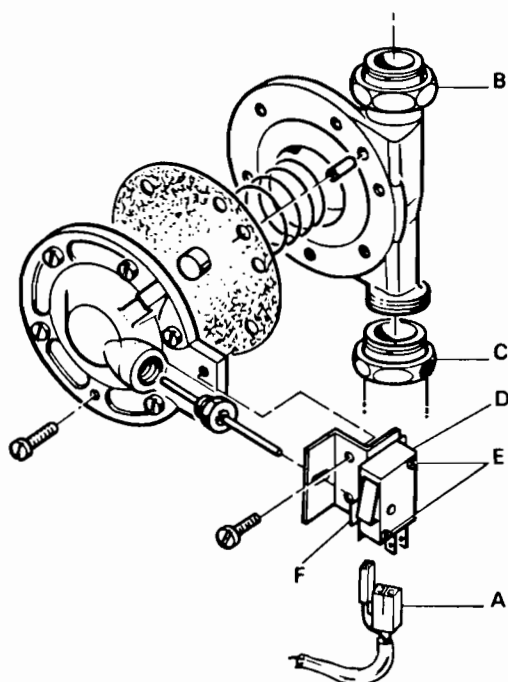

Fig. 27
**Section 16 : To replace the Differential Flow Valve (R.H.S. of Boller Controls) (Fig.27)**